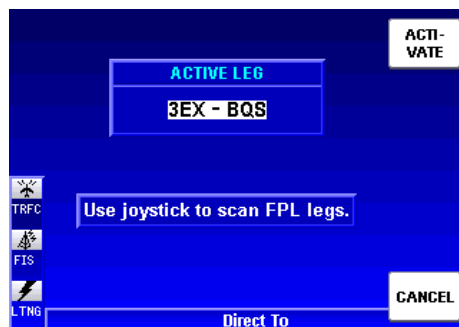

Figure 1-142
2. Press the Direct-To Key a second time to display Figure 1-142.